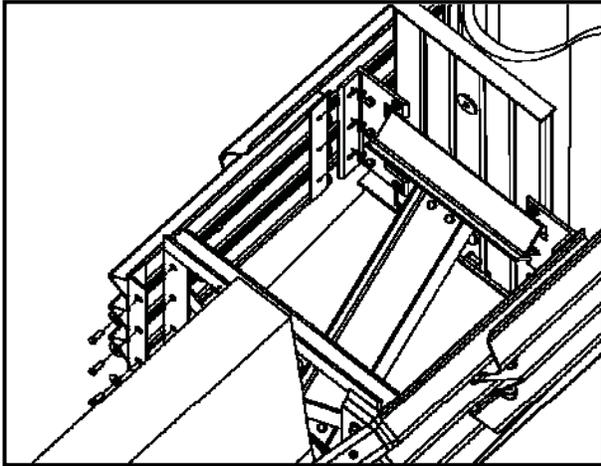
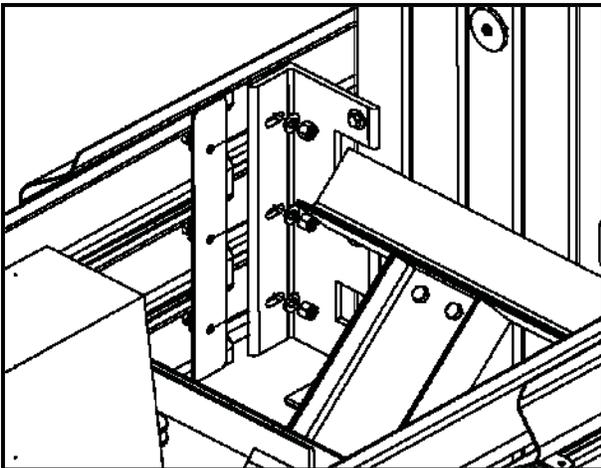
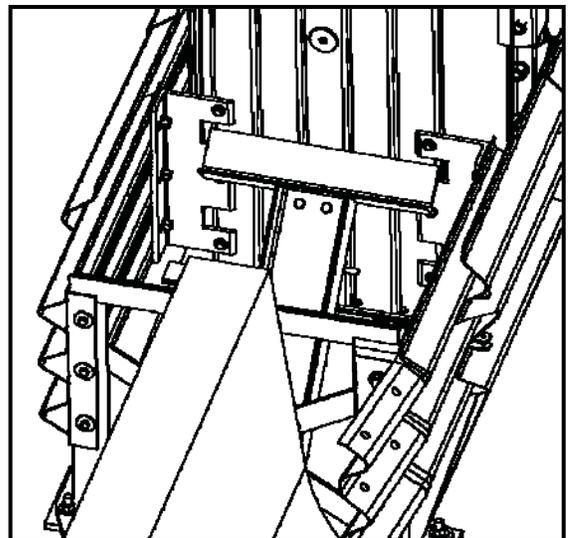

Figure 26: Transition Fender Panel Installation Assembly with Hardware
Figure 28: Transition Panel Mount Bracket Installation with Hardware
Figure 29: Installed Transition Fender Panel
Install the Transition Fender Panel (4) to the rear right of the Transition Standing Brace (1) using three bolts (19), three nuts (21), and six washers (20) as shown in Figures 26 and 27. Then fasten the front end of the Transition Fender Panel (4) to the outside of the right Backstop Mounting Bracket (3) using three bolts (22), three nuts (24), and six washers (23) as seen in Figure 28. The installed Transition Fender Panel (4) can be seen in Figure 29 below.